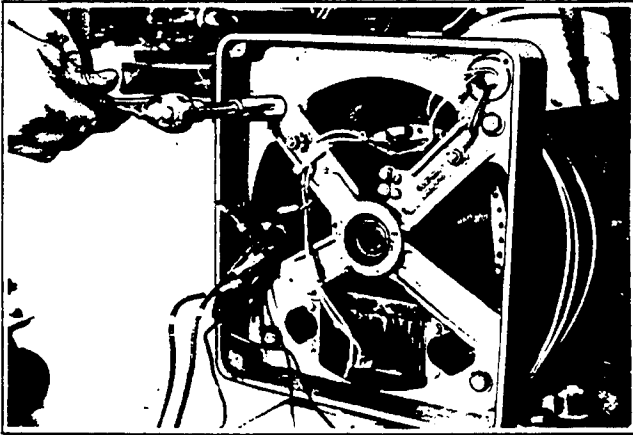

Figure 5-5. Removing Over-Bolts
9. Remove four over-bolts. Figure 5-5.